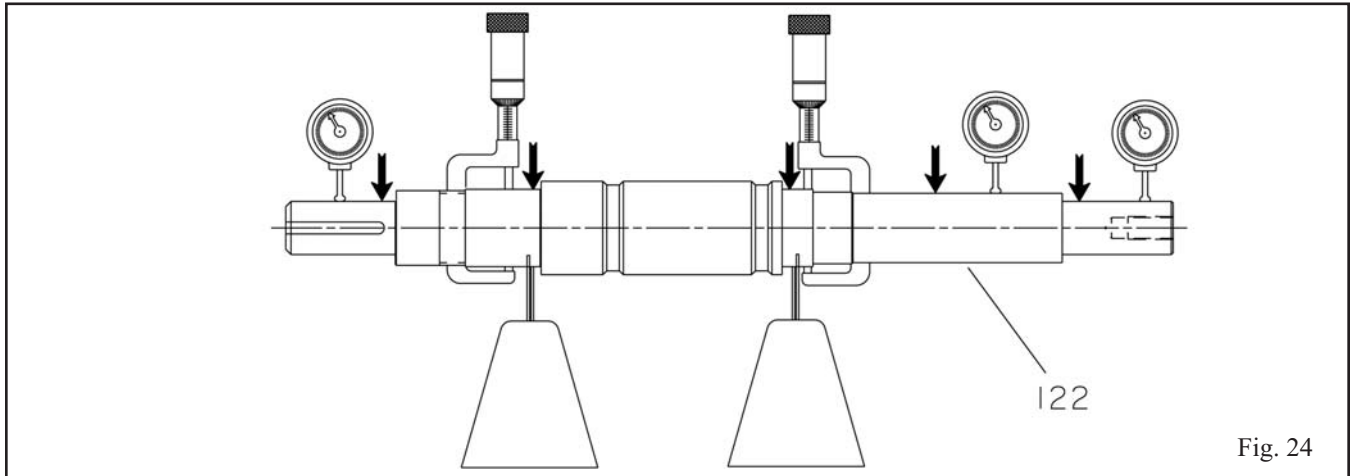

Fig. 24
1. Check bearing fits. If any are outside the tolerance shown in Tables 5 or 5A, replace the shaft (Fig. 24).
2. Check shaft surface for damage, especially in areas indicated by arrows in Fig. 24. Replace if damaged beyond reasonable repair.